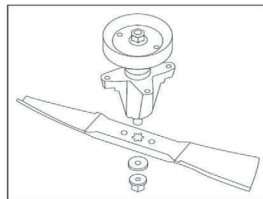

FIG.28
5. REMOVA A PORCA E A LÂMINA DA LÂMINA. (FIG.28)